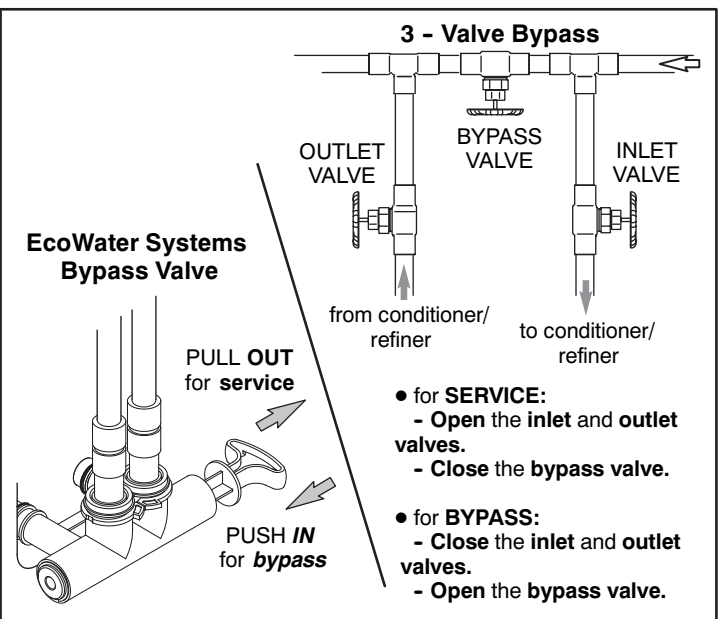

FIG. 6
- b. Place the bypass valve(s) in **bypass** position (See Figure 6).
- (1) SINGLE BYPASS VALVE: **Slowly** move the valve stem toward **service** position, pausing several times to allow the unit to pressurize slowly.